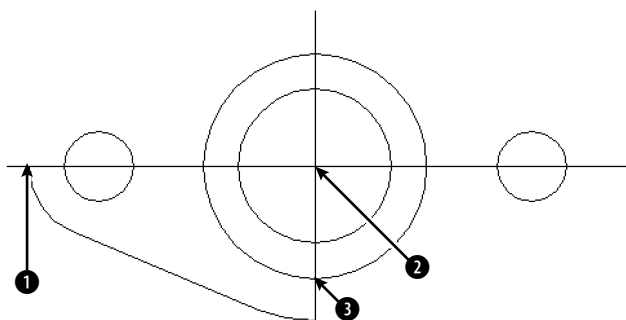

Figure 10-1: A partially completed mounting plate
3. Choose Erase on the Modify toolbar. At the **Select objects:** prompt, pick the line and two arcs to the bottom-right of the two centerlines and then press Enter. The resulting model should look like Figure 10-1.
5. At the **Specify first point of mirror line:** prompt, pick the intersection ❶ in Figure 10-1. At the **Specify second point of mirror line:** prompt, pick the intersection ❷.